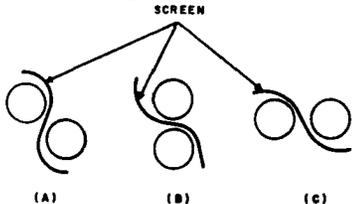
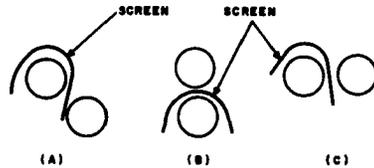

Fig. 6—Proper Methods of Placing Screen
Fig. 7—Improper Method of Placing Screen
4.13 Place the screen between the two halves of the splice in any of the ways shown in Fig. 6. Do not place the screen in any of the ways shown in Fig. 7.